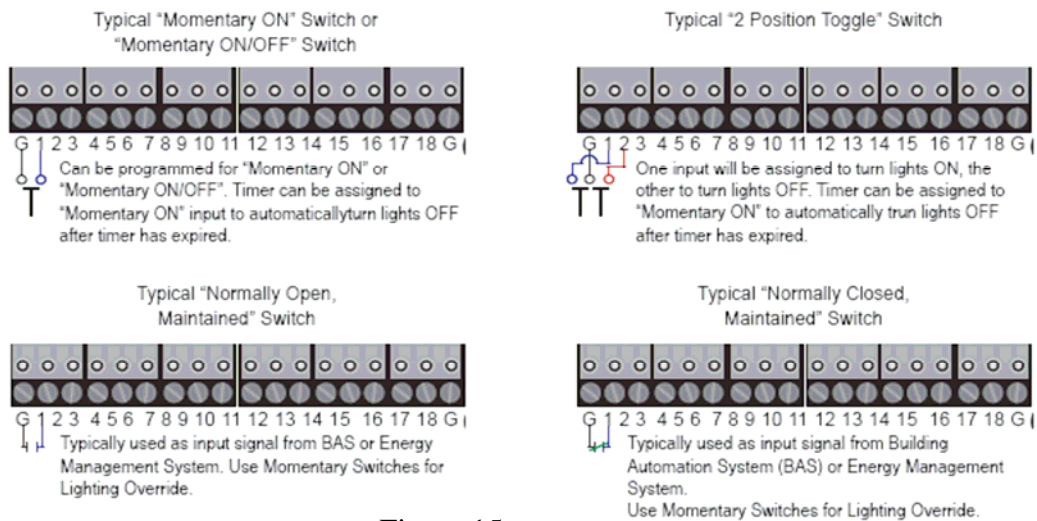

Figure 15
4. See explanations and Figure 15 and Table 4 above.
6. Connect one end of the switch or contact to terminal "G" and the other to any terminal 1-24. Momentary switches which have both an On and Off contact will require two switch inputs on the controller. See Figure 15 for sample wiring diagrams for each input type. Switch input terminal blocks are screw type. Land wires by unscrewing, inserting the stripped wire, and tightening the screw.